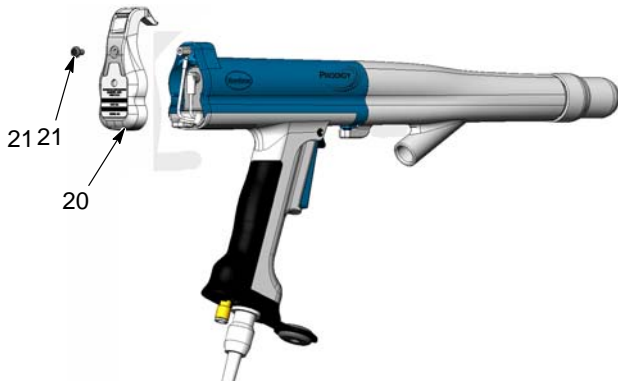

Figure 18 Removing the End Cap
- See Figure 18. Remove the end cap screw (21) and end cap (20) from the gun body.
7. See Figure 18. Install the end cap on the gun body with the screw.